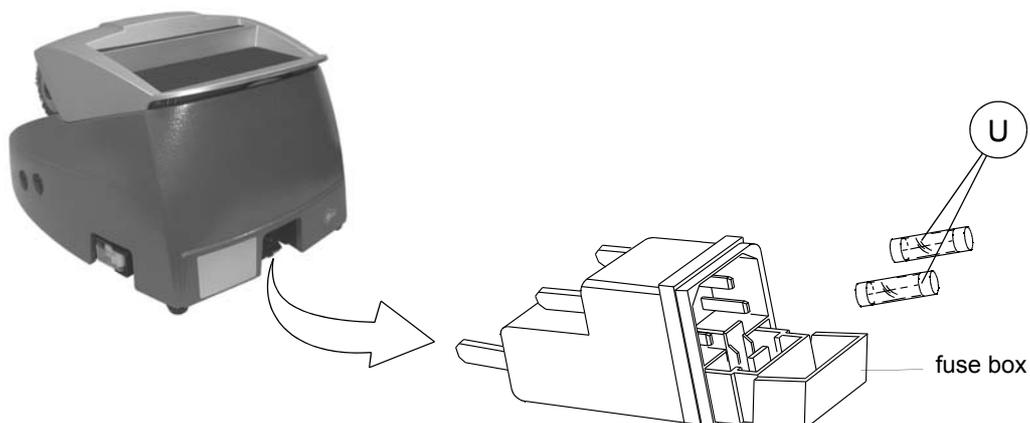

Fig. 26
- 3) Remove the fuses box placed below the key-cutting machine socket (V) (fig. 26).
- 4) Replace the fuses (U) (fig. 26).